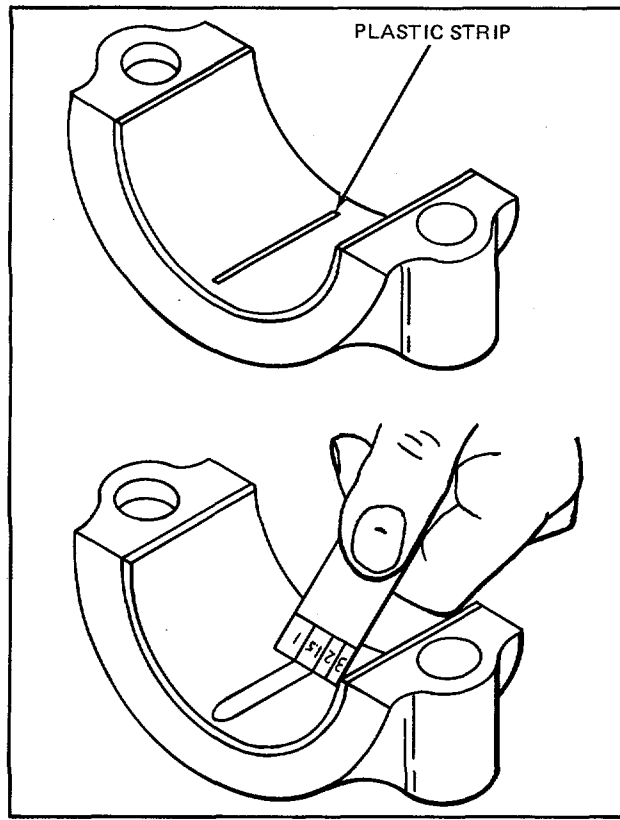

Figure 1. Using Plastic Strip to Measure Bearing-to-Crankshaft Clearance
2. Place a piece of the plastic strip the full width of the bearing shell, about 1/4 inch off center (Fig. 1).
5. Compare the width of the flattened plastic strip at its widest point with the graduations on the envelope (Fig. 1). The number within the graduation on the envelope indicates the bearing clearance in thousandths of an inch. Taper may be indicated when one end of the flattened plastic strip is wider than the other. Measure each end of the plastic; the difference between the readings is the approximate amount of taper.